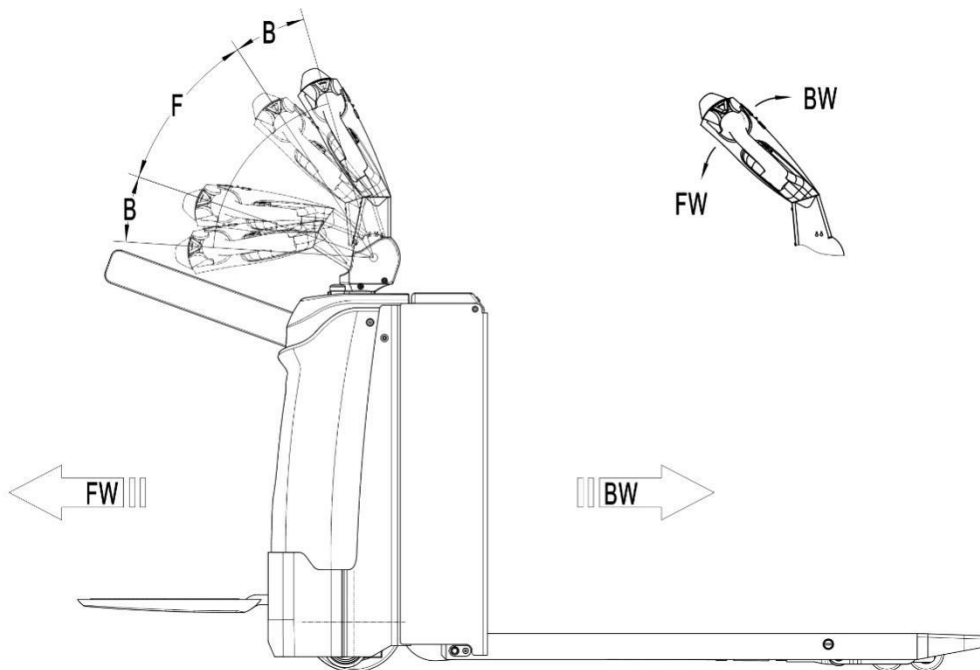

Fig. 8: Operating direction
Long press power button (10), activate the truck by combination lock, move the tiller to the operation position ('F', see Fig. 8). Turn the accelerator knob to the desired direction forward 'FW.' or backward 'BW.' (Fig. 8)